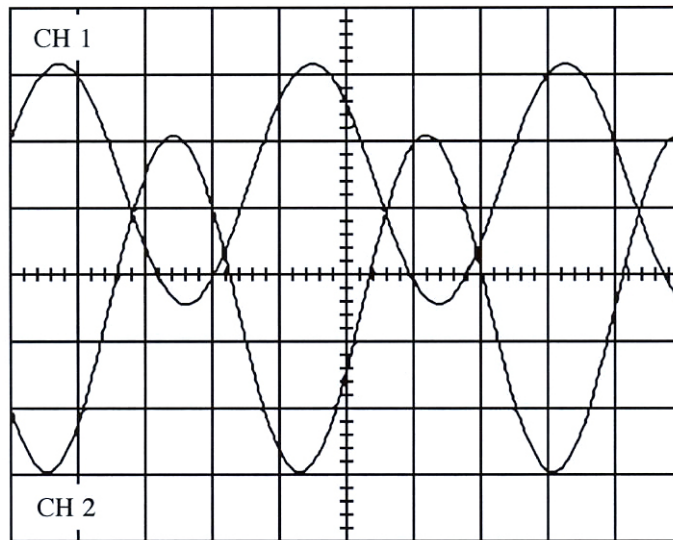

Figure 1-3. Oscilloscope Display
2. For the scope display shown in Figure 1-3, determine the voltages required in Table 1-2. Record your answers on the Prep Sheet as well.